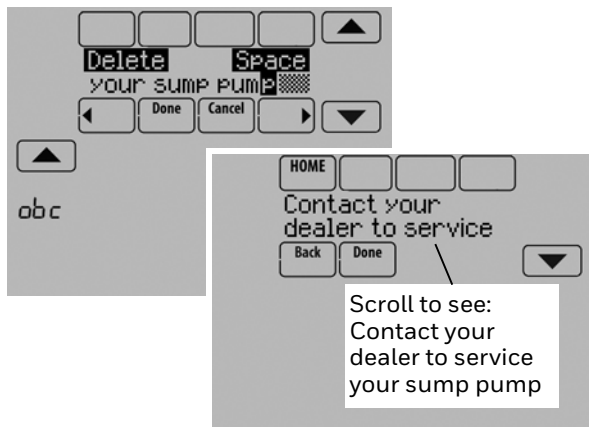

Fig. 162.
7. Type the custom alert message and press Done. The custom alert message appears after selecting the alert and pressing "View More Info". See Fig. 162. You can edit or confirm the alert message after you enter it.